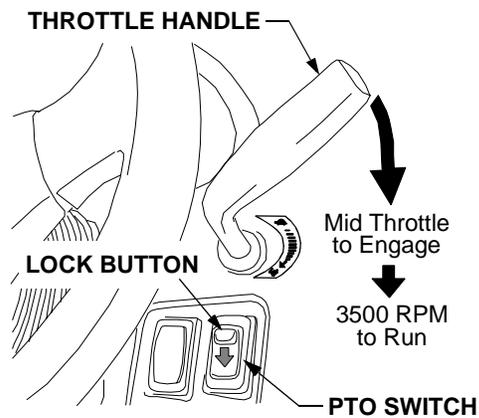

Figure 20
- Move the throttle handle to the mid throttle position. See Figure 20.
- Slide the lock button rearward and then push the *top* of the PTO switch downward to engage the PTO. See Figure 20.